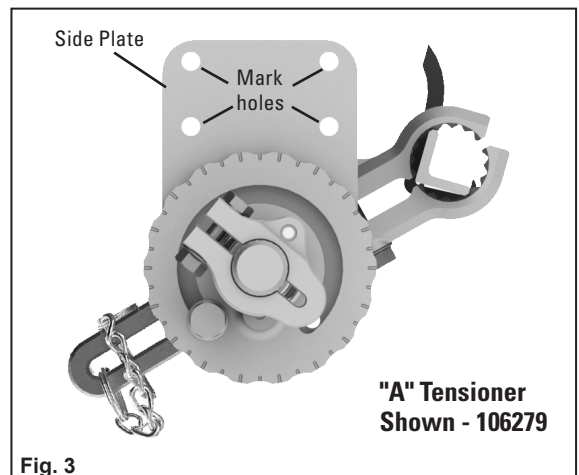
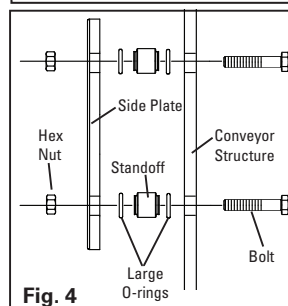

Fig. 3
Fig. 4
7. The bolt holes need to be transfer punched onto the conveyor structure in accordance with the FGS side plate fastener holes, as per Fig. 3, in such a way that at least two fasteners per side can be installed. If mounting cleaner was supplied with stand off bolts, install as per Fig. 4. If no stand offs are required, install side plates as per Fig. 5.
9. Back drill all holes using an 8mm (5/16") drill. At least two bolt holes are needed per side plate as noted in the bolt hole diagram (Fig. 3).
12. Attach opposite side plate per Fig. 4 or Fig. 5.